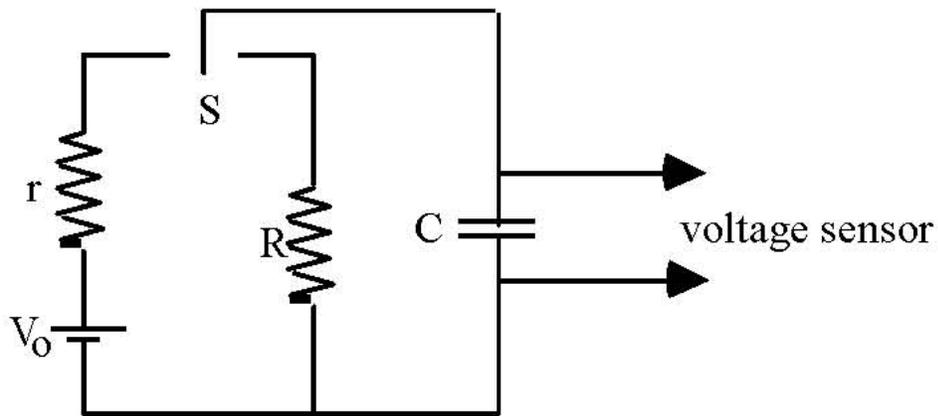

Figure 4: Circuit Diagram. Note: The parts of the circuit diagram marked S represents the 3 connectors on the DPDT Switch. See Figure 7.
- 1. Construct a circuit (fig. 4). Connect the voltage sensor as a voltmeter.**